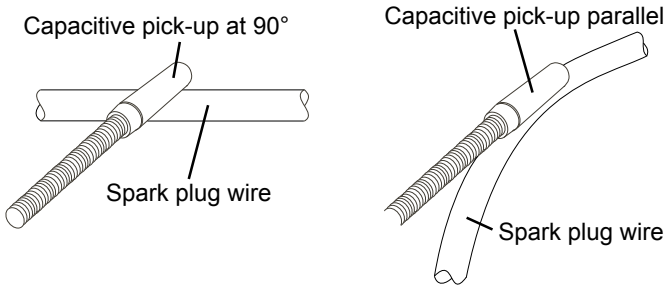

Fig. 5 - Capacitive pick-up on spark plug wire
- 6- Place the capacitive pickup over one of the spark plug wires, and proceed to read the measurement on the display.To obtain consistent measurements, maintain a right angle (90°) or parallel between the pick-up and the wire(as shown in Fig 5 below).